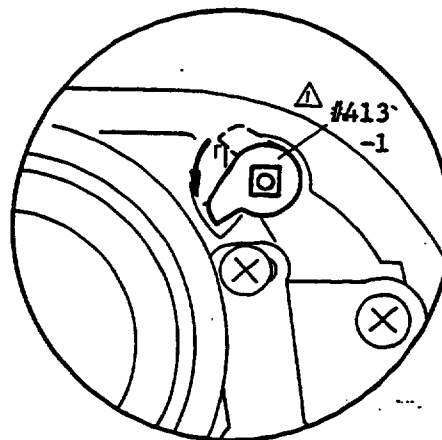

fig. 14-4
- 2) Check FAI-413 for proper setting and releasing. (See fig. 14-4.)